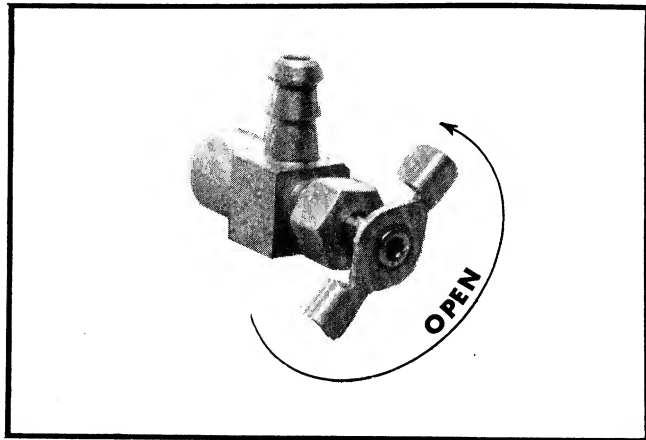

FIGURE 15. FUEL SHUT OFF VALVE
3. Open fuel shut-off valve located under the gasoline tank. See Figure 15.